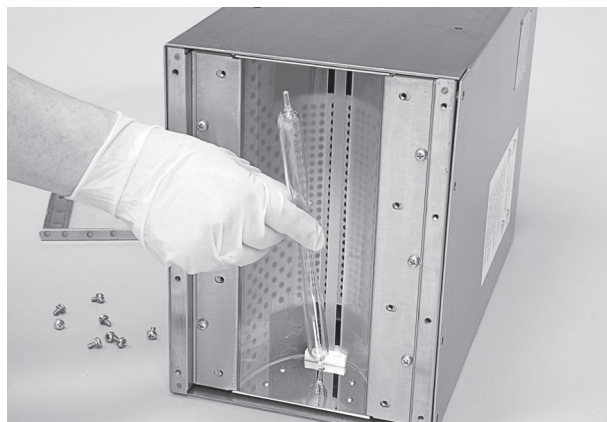

Figure 6-5 Bulb Removal and Replacement
4. See Figure 6-5. The bulb is held in place by springs inside the retaining holes at each end of the lamp. Grasp both ends of the bulb and push one end into its retaining hole until the other end comes free. Carefully tilt the bulb to the side just enough to remove the retained end from the hole. Tilting the bulb too much could break off the tip of the bulb.